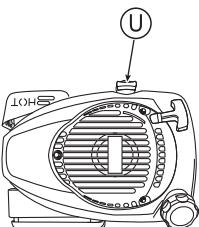

Fig. 6
1. Remove the oil tank cap (U), pull out the oil gauge, and then insert it not screwing it. (See Fig. 6)
2. Remove the oil tank cap (U), and confirm that the oil level is between the upper and lower limits of the oil gauge.
4. Firmly close the oil tank cap (U) after confirmation.